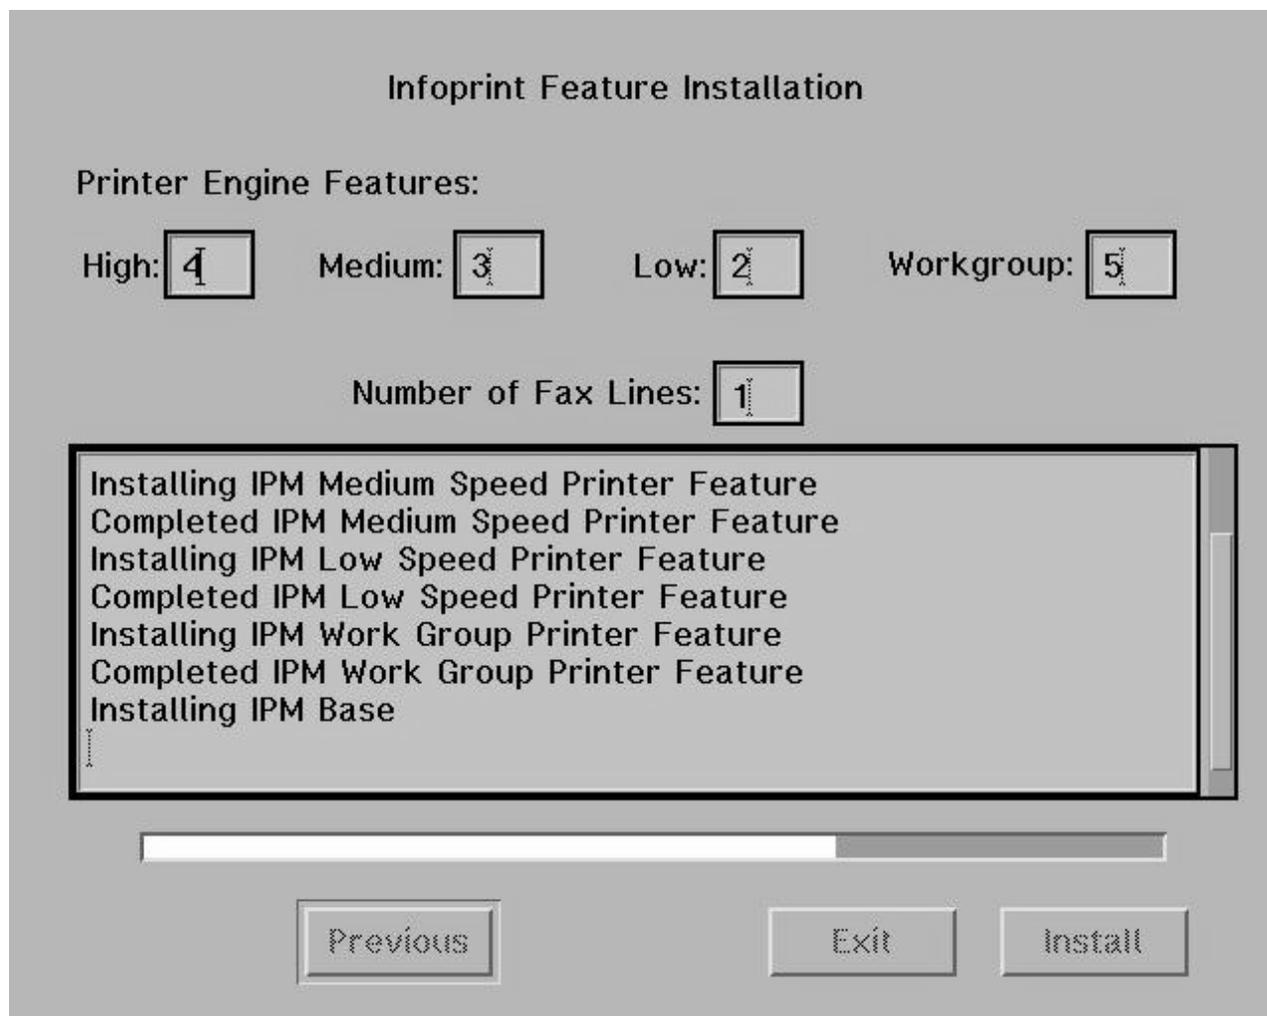

Figure 20. Infoprint Feature Installation panel: Adding Features (in progress)
7. The Installer begins to install the feature that you inserted into the CD-ROM drive, showing progress from the open window at the center of the screen and the revolving progress bar (see Figure 20 on page 53).